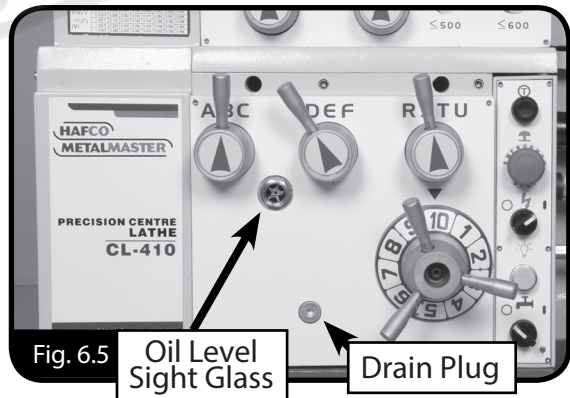

Fig. 6.5
The quick change gearbox is oil-bath lubricated to insure the long life of the gears and bearing. It is recommended the lubricant to be changed every twelve months with a 20W non-detergent oil, or an equivalent gearbox machine oil. The oil level can be checked by viewing the sight glass (Figure 6.5) The oil level should be kept so that the oil is level to the middle of the sight glass.
1. Drain the gear box. See Fig. 6.5 for the drain plug.